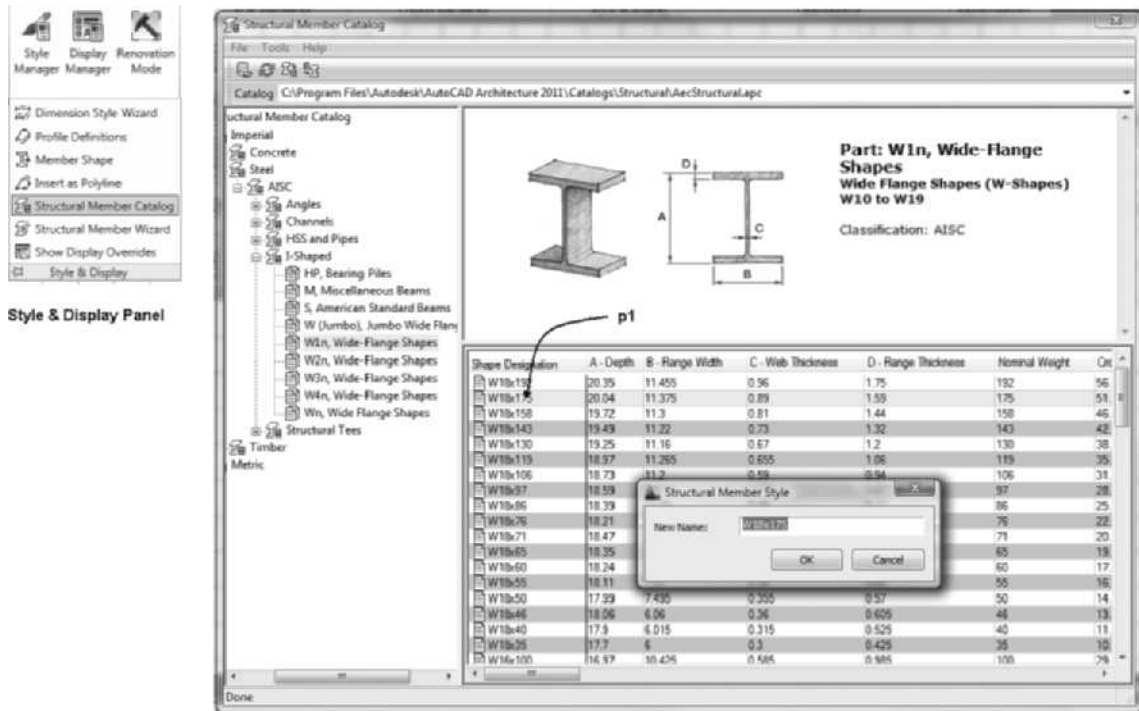

FIGURE 13.1 Structural Member Catalog
The left pane of the Structural Member Catalog lists a hierarchical tree view of the components available as shown in Figure 13.1. If you select a structural member in the left pane, a graphic preview of the category of members is shown in the upper-right pane and the text descriptions of the physical properties of the members are shown in the lower-right pane. The columns describing the physical properties of the beam usually exceed the width of the lower-right pane; therefore, you can use the scroll bar at the bottom of the pane to view the additional properties.
Double-click the component name at p1, shown in Figure 13.1, in the lower-right pane.
6. Type a name in the **Structural Member Style** dialog box as shown in Figure 13.1.